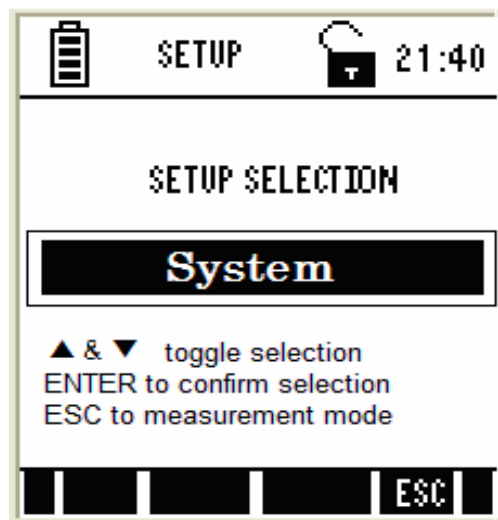

Figure 66: Setup Selection screen
8. Press **Enter** key to launch Setup Selection Screen. (See Figure 66)